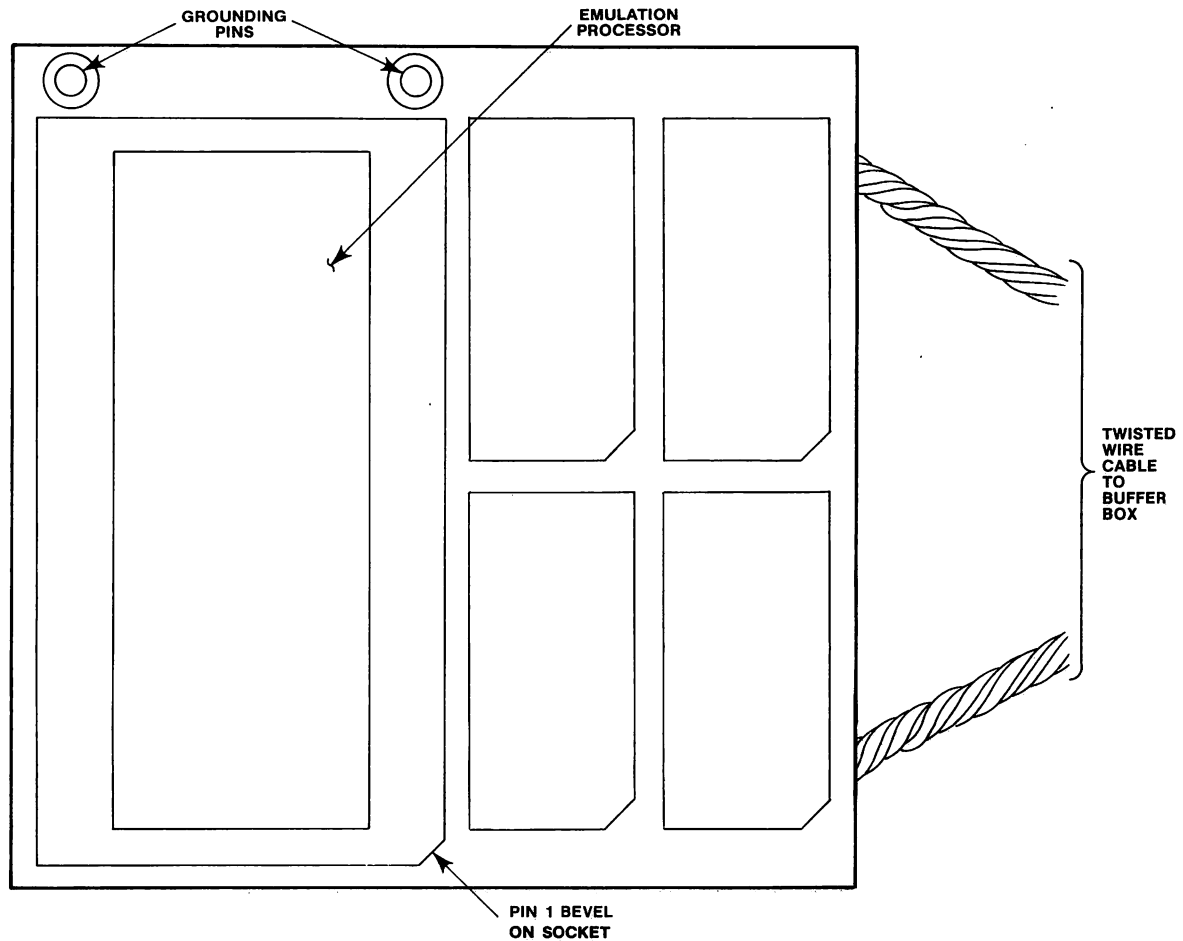

Figure A-4. User Plug, Top View
11. Replace chassis access panel. (See step 3.)**12. Ensure proper grounding.** Locate the ground access points on the user plug (figure A-4). To enhance noise immunity, connect one or more of these to the user system electronic ground.